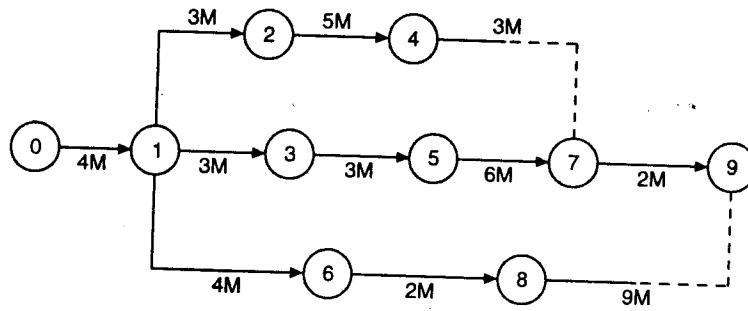

Fig. 25.69
**Step 3.** After the squared network, draw the resource histogram as shown below in Fig. 25.69. This is based on the earliest start times, and is obtained by vertically summing up the man-power requirements for each week.